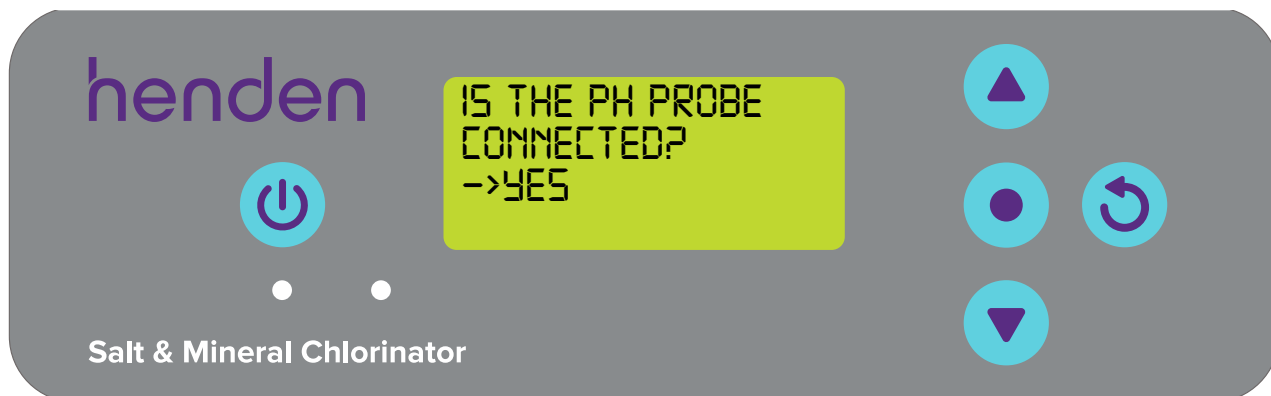

Figure 6.6
- The next screen shown asks if the pH probe is currently connected and to be used (refer Figure 6.6)